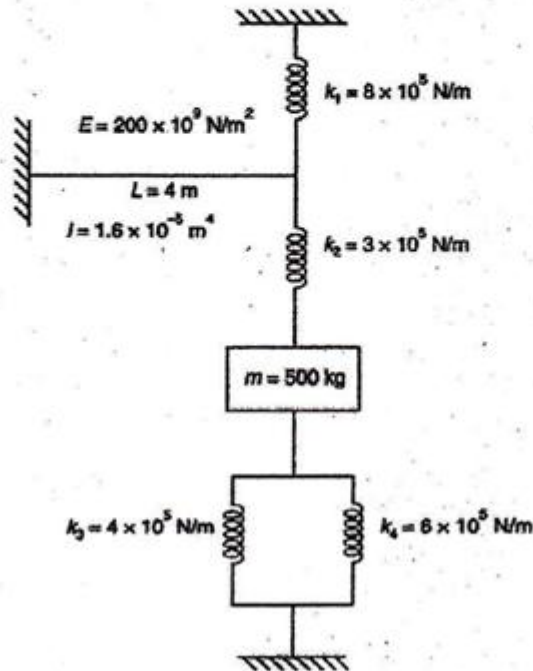

Figure 2.17
**EXAMPLE 2.9** Determine the natural frequency of the system shown in Figure 2.17.